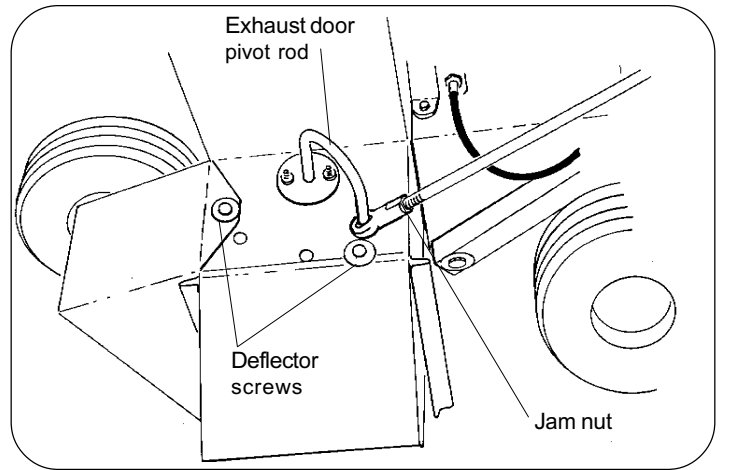

Fig. 9
7. Assemble desired deflectors onto side and front of housing exhaust outlet using screws provided on unit. (See fig. 9, Page 5)